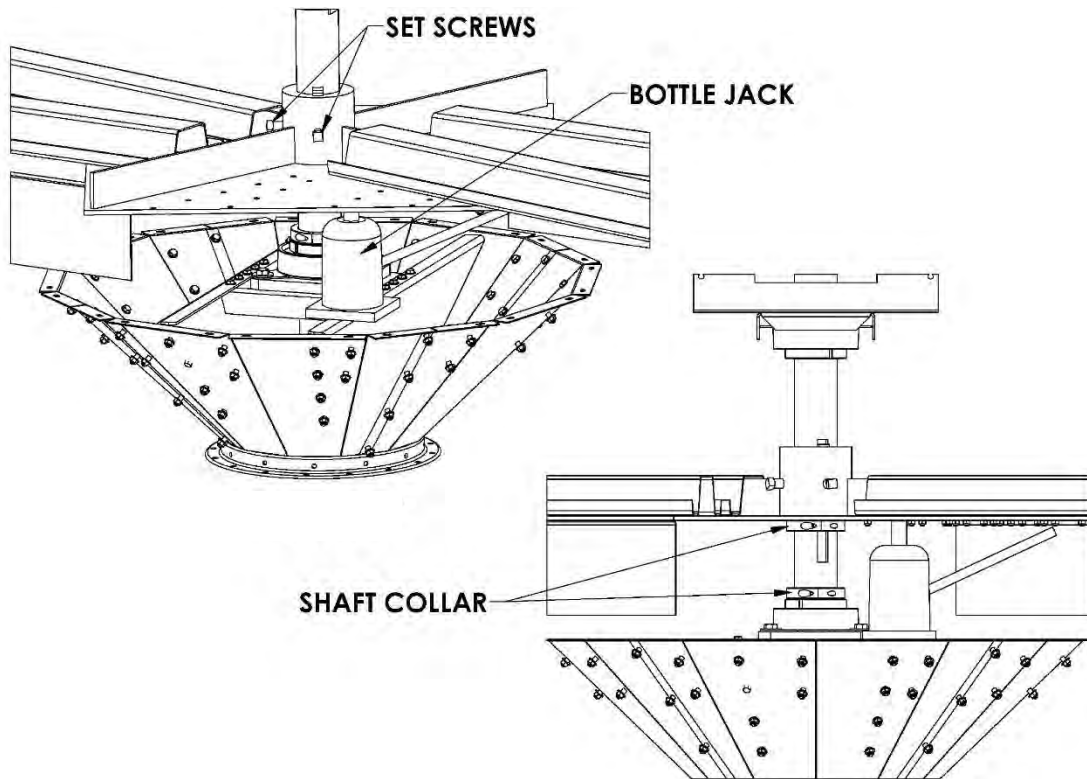

Fig. 4 – Securing rotor height with shaft collars
- 3. Set height of rotor on shaft.** Scraper blades should be as close to grain floor as possible without touching it. Make sure all washers/spacers are removed between drive hub and main arms. Raise (or lower) drive hub until scraper blades are just higher than highest point of grain floor. To raise rotor, loosen setscrews on drive hub and use a bottle jack between drive hub and lower bearing support plate. See Fig. 4. Two jacks may be needed if hub binds on shaft.
After drive hub is raised up on shaft, tighten setscrews and position two shaft collars between bottom of drive hub and top of lower bearing as shown in Fig. 4. This keeps shaft and drive hub from slipping down.